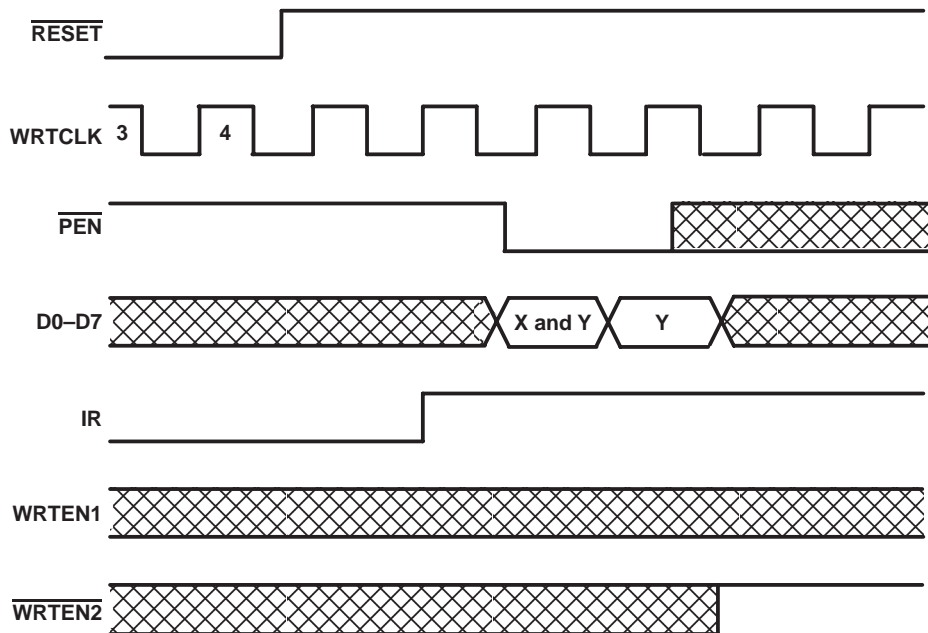

Figure 4. Programming X and Y Separately
Program enable (\overline{PEN}) should be held high throughout the reset cycle. \overline{PEN} can be brought low only when IR is high. On the following low-to-high transition of WRTCLK, the binary value on D0–D7 is stored as the almost-empty offset value (X) and the almost-full offset value (Y). Holding \overline{PEN} low for another low-to-high transition of WRTCLK reprograms Y to the binary value on D0–D7 at the time of the second WRTCLK low-to-high transition. When the offsets are being programmed, writes to the FIFO memory are disabled, regardless of the state of the write enables ($\overline{WRTEN1}$, $\overline{WRTEN2}$). A maximum value of 127 can be programmed for either X or Y (see Figure 4). To use the default values of X = Y = 32, \overline{PEN} must be held high.